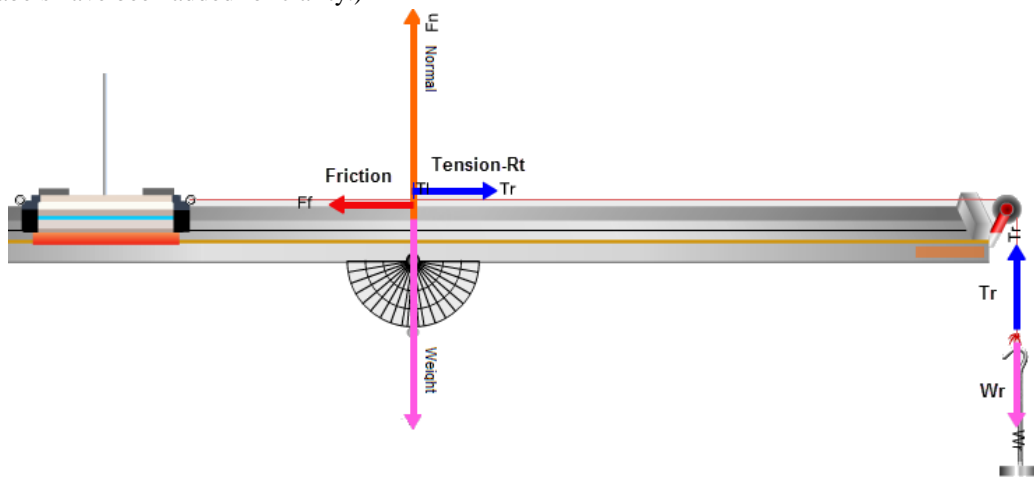
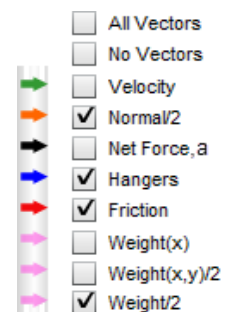
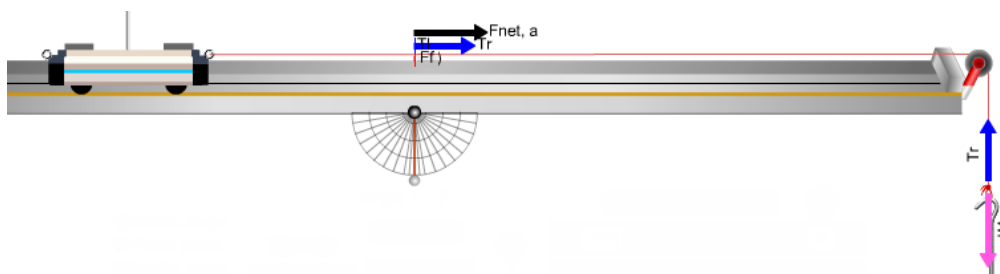

Figure 4 – Dynamic Vectors
Figure 3 – Vector Display Controls
Figure 5 – The Net Force
Click  to turn on "Dynamic Vectors." You'll want to leave Dynamic Vectors on most of the time during this lab. Adjust the check boxes in the apparatus to match Figure 3. You should now see something like Figure 4. (Some extra labels have been added for clarity.)
The forces on the mass hanger are the opposing forces T_r , and W_r . W_r is the weight of the right mass hanger. T_r is again the tension in the string. For a massless string, the tension is the same throughout. (For a non-massless string the trailing end will have less tension than the leading end. We'll discuss that no further!) It's important that you understand that we use the term tension in two ways. In everyday use we think of the tension as the tautness of a string. That tautness is caused by forces pulling on each end. The reaction force by the strings' ends on the cart and hanger are also referred to as the tension. So we say that the tension force provided by the string acts equally (for our massless string) on both the cart and the hanger. So the pair of T 's will always represent equal magnitude forces acting on the objects the string is attached to. Make sure that you see how that's represented in Figure 4.
- In Figure 5 we might consider the cart and hanger as a system and then consider the net, external force on that system, and the mass of the system.
In Figure 4 the cart-hanger system remained at rest because of the brake which exerts a friction force, F_f , which changes to match any amount of weight that can be added to the hanger. When you release the brake the vectors should change to look like Figure 5. Try it at few times. There is now a net force so there will be an acceleration. Try turning the brake on and off and notice how the forces change. You can also just hold and release the cart with the mouse. You're sort of acting like a brake but no vector will be shown to represent this.